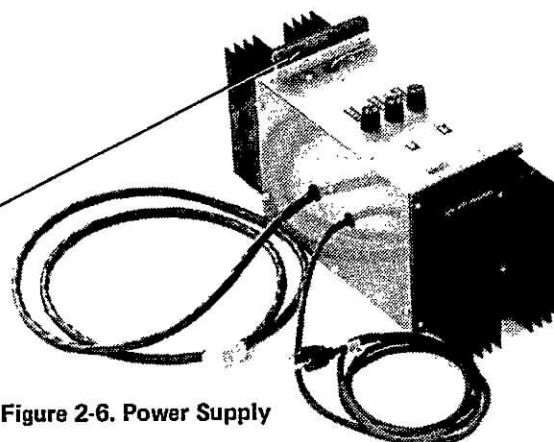

Figure 2-6. Power Supply
- Step 1** Connect a voltmeter across the 5-ohm resistor on the power supply. The meter should be set to the 10 Vdc scale (or higher), with the leads connected as shown in figure 2-6.